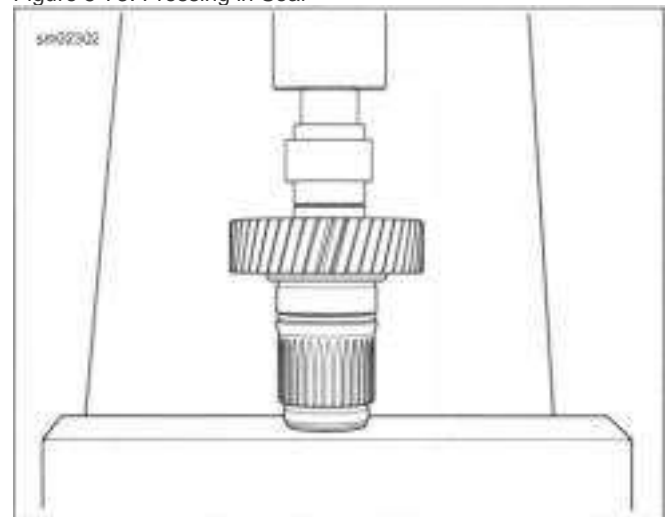

Figure 5-74. Installing Inner Needle Bearing in Main Drive Gear
7. See Figure 5-74. Use MAIN DRIVE GEAR BEARING AND SEAL INSTALLATION TOOL (PART NUMBER: HD-47932) to press inner needle bearing until tool contacts gear.